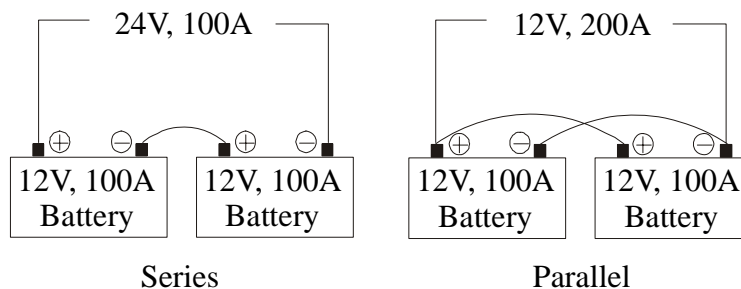

Figure 24. Series and parallel battery wiring schematics. Parallel connections may be unsafe and are not normally advised.
Voltage. To determine the required battery voltage, all parts of the power loop must be taken into consideration. The sensor, datalogger, wiring, and all other devices have resistance to electrical flow. To maintain a certain current, equation (2) shows that voltage must increase with increasing resistance. If a sensor has a specified excitation of 12 – 30 VDC, at least 12 VDC must be available across the sensing element. A 12 V battery would not be sufficient if any significant length of wire was involved, or if any additional loads (such as a datalogger) were placed on the system. If batteries are placed in series, their voltages are additive (Figure 24). Connecting batteries in parallel can be unsafe and is not advised unless absolutely required. Contact the battery manufacturer before attempting this.